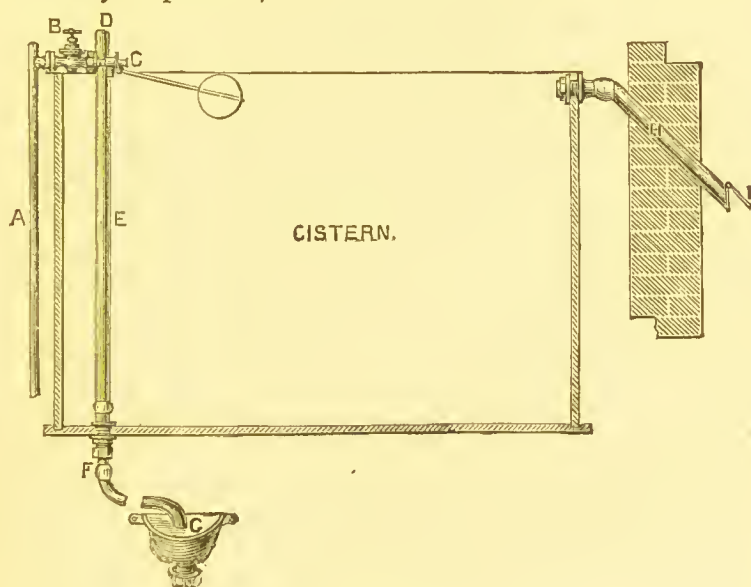

FIG. 19.
Take an *overflow-pipe*, at least twice the size of the service-pipe, from the top of the cistern to the *nearest external wall* of the house, and let it stand two or three inches beyond the face of the wall, with a copper-hinged flap, 1, Fig. 19, soldered on the end of the pipe, to prevent birds building in it, and stopping it up, &c., and also to shut out the draught in case of frost. The
*outlet end* of this overflow-pipe should always be a foot or more below the inlet in the cistern, to give a pressure of water upon the copper flap to keep it open during an overflow (see Fig. 19, H and I). Having provided an overflow-pipe—*i.e.*, for a failure in the ball-valve, the next important thing is to provide proper means for cleaning out the cistern. Fix a brass washer and waste connection in the cistern bottom in the usual way, and as this is only for cleaning out purposes, and not an overflow-pipe and waste combined, the size need not be more than 1 in. or  $1\frac{1}{4}$  in. Then take an *under-waste* of  $1\frac{1}{4}$  in. diameter lead pipe from it to the nearest rain-water pipe-head, as shown at F and G, Fig. 19; or, if there is no rain-pipe near or in the vicinity of the cistern, or if the rain-water is collected, then take the pipe into the nearest slop-sink trap, making the connection of the pipe with the trap at least  $2\frac{1}{2}$  in. below the water-line. And from this brass washer and waste in the cistern bottom, fix a standing pipe, as E, Fig. 19, and continue it up to the top of the cistern, with the *end*, D, *soldered over*, to act simply as a *plug* (an ordinary plug and washer with a long chain would answer the same purpose, but it is not so easy of management as the standard lead plug just named. If the chain-plug were pulled out by accident when the cistern was full of water, it would be difficult